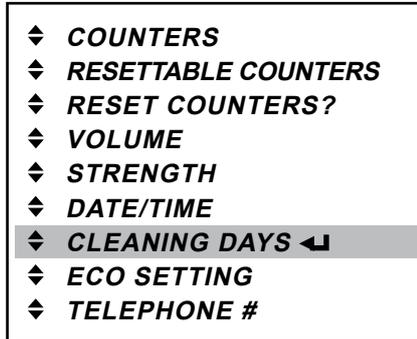

Fig. 60
- Press the enter button ◀ to access the «CLEANING DAYS» menu (fig. 60).